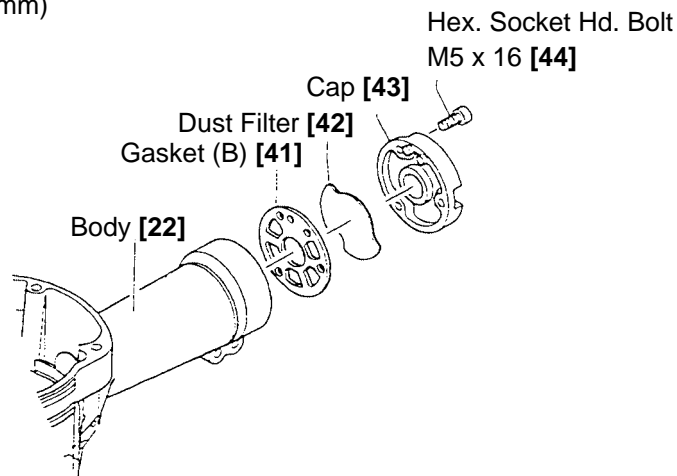

Fig. 21 Disassembly and reassembly of the cap
(1) Disassembly and reassembly of the cap (See Fig. 21.)